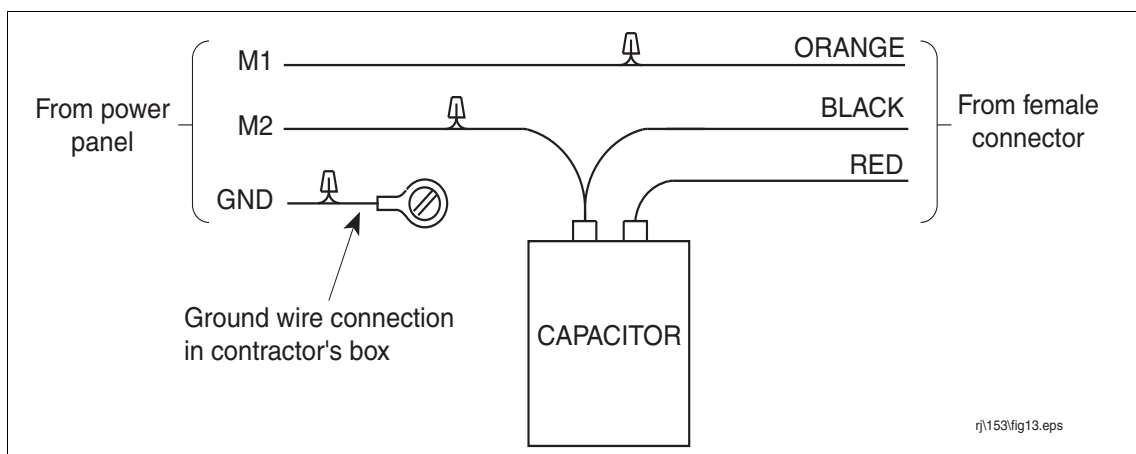

Figure 13. Capacitor Wiring Schematic
15. Using supplied wire nuts, attach like colored pump pigtail wires to like colored electrical connector wires as shown in Figure 13.